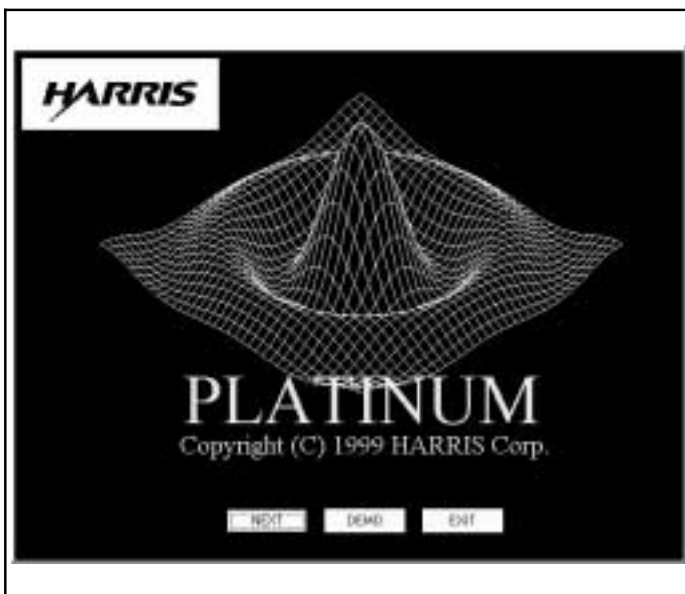

Figure 3-1 Entry Screen
- a. Double-click on the **DTV** icon. The program should start and the Entry screen (Figure 3-1) should appear. The Entry screen contains three “buttons” on the lower edge of the screen: